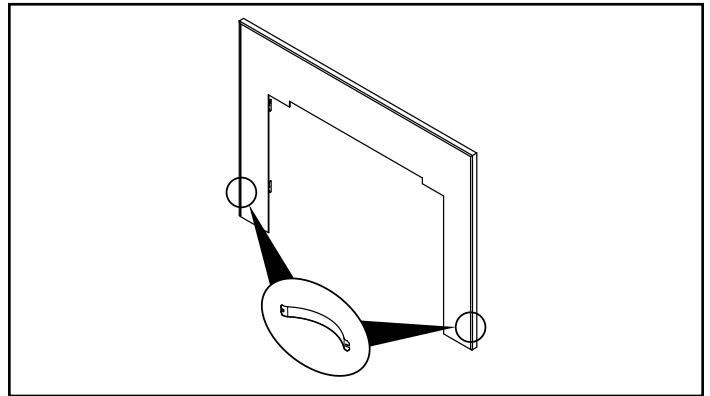

Figure 21.4
6. Install two steel springs on each side of the flat surround towards the bottom and the assembled trim kit (**Figure 21.4**).